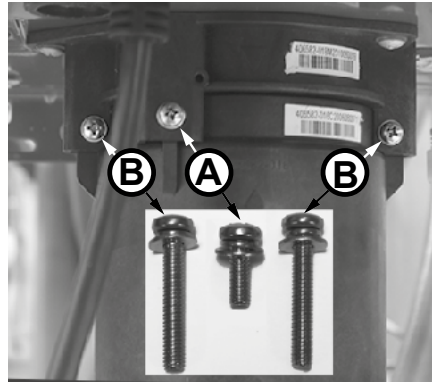

Figure 1 - Identify cartridge screws
- 6** Locate the three (3) screws securing the X3®/Bypass cartridge as shown in Figure 1. Remove